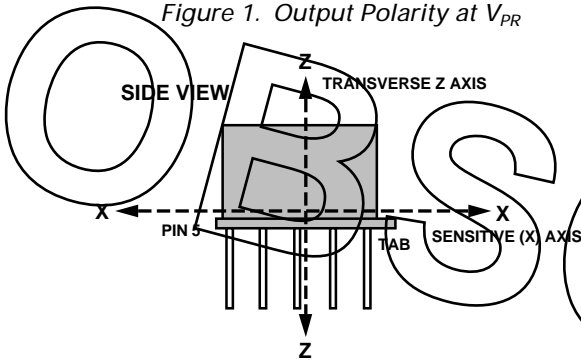

Figure 2a. Sensitive X and Transverse Z Axis
The ADXL50 responds to the component of acceleration on its sensitive X axis. Figures 2a and 2b show the relationship between the sensitive “X” axis and the transverse “Z” and “Y” axes as they relate to the TO-100 package.
Sensitive Axis (X): The most sensitive axis of the accelerometer sensor. Defined by a line drawn between the package tab and Pin 5 in the plane of the pin circle. See Figures 2a and 2b.